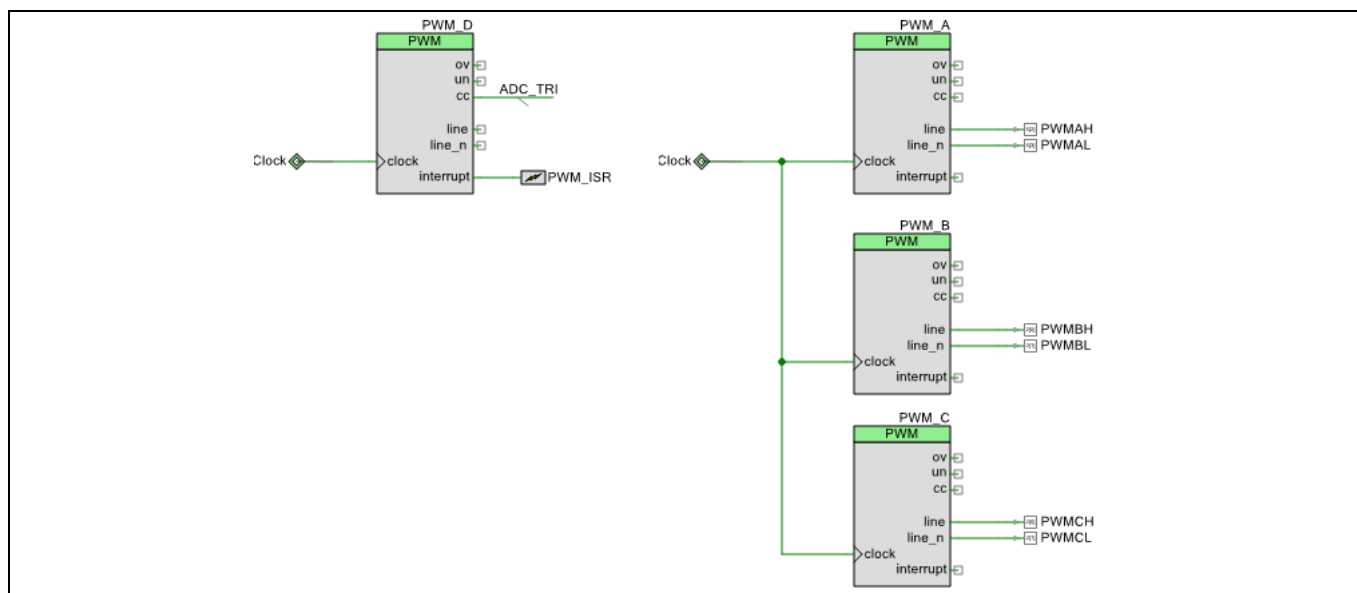

Figure 32 PSoC Creator Schematic: SVPWM and Timing
Figure 32 shows the SVPWM implementation in PSoC Creator. A common 48-MHz clock synchronizes the PWM outputs.
- route the PWM_A ‘un’ output back to the ‘switch’ input of all PWMs (signal ‘PWM_UPDATE’ in Figure 32)